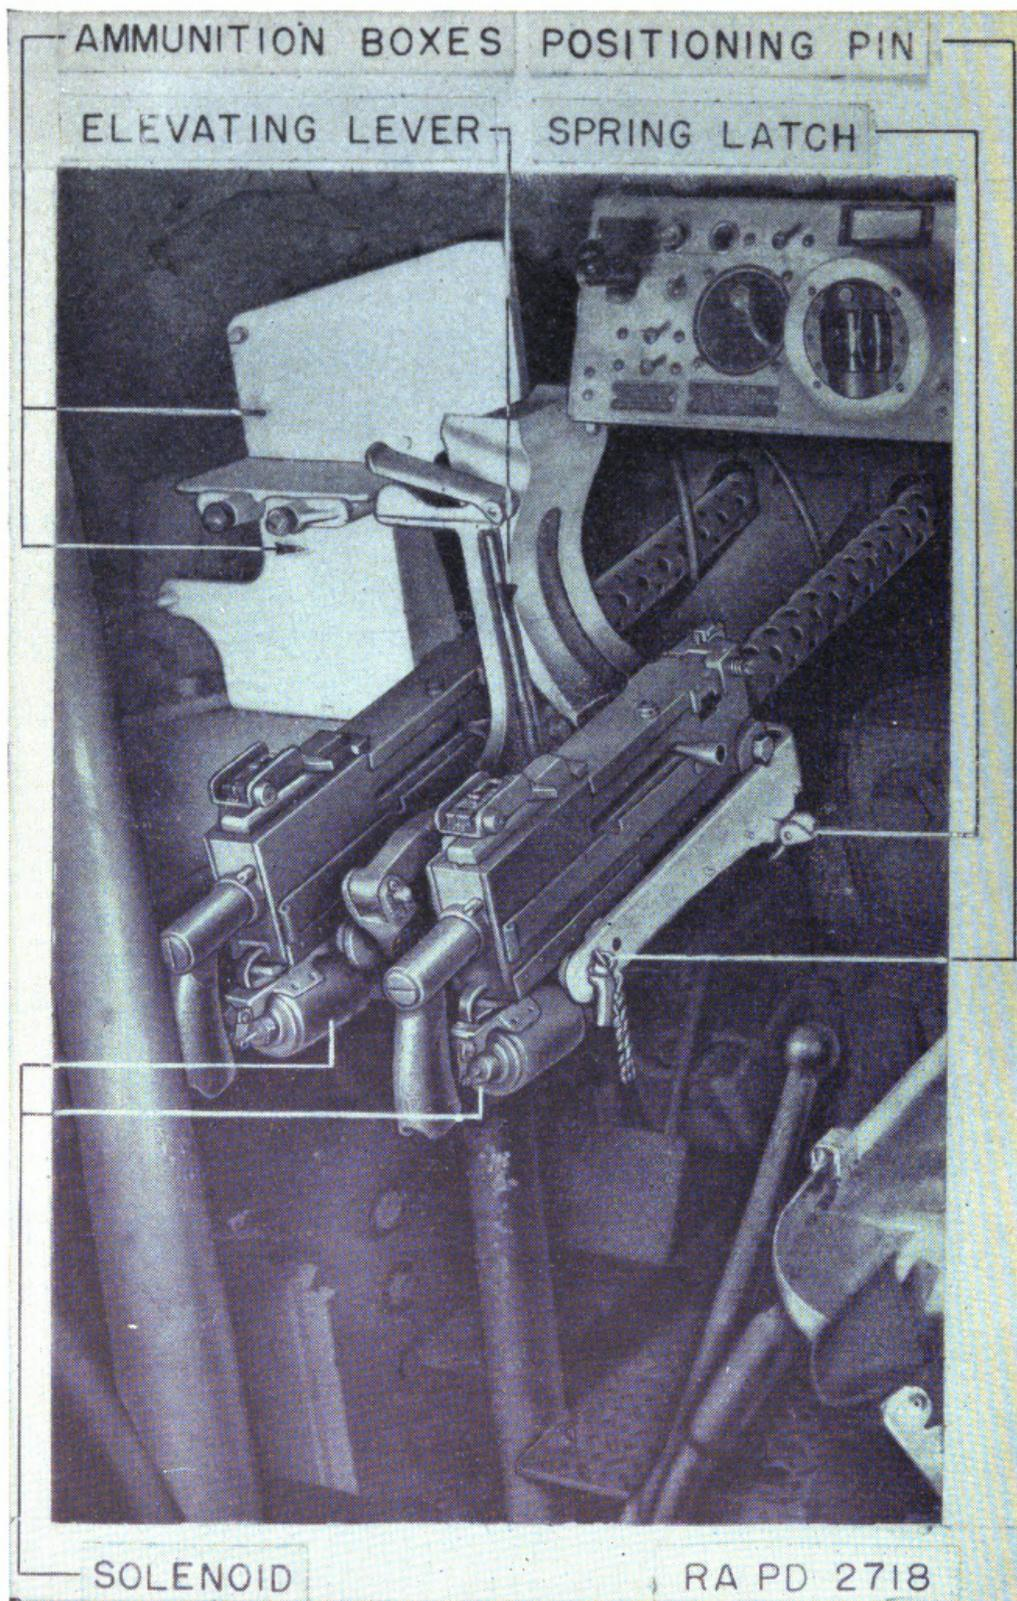

FIGURE 16.—Cal. .30 bow guns.
d. Bow guns (fig. 16).—The bow guns are located in the left side of the driver's compartment, projecting through the front plate, and consisting of two caliber .30 machine guns M1919A4 which are fired by the driver. The guns are elevated manually and have no traverse. Traverse is accomplished by steering the tank. The guns may be fired electrically by pressing switches mounted on the steering levers or manually by conventional triggers. Relay switches are located in junction box at left of instrument panel.